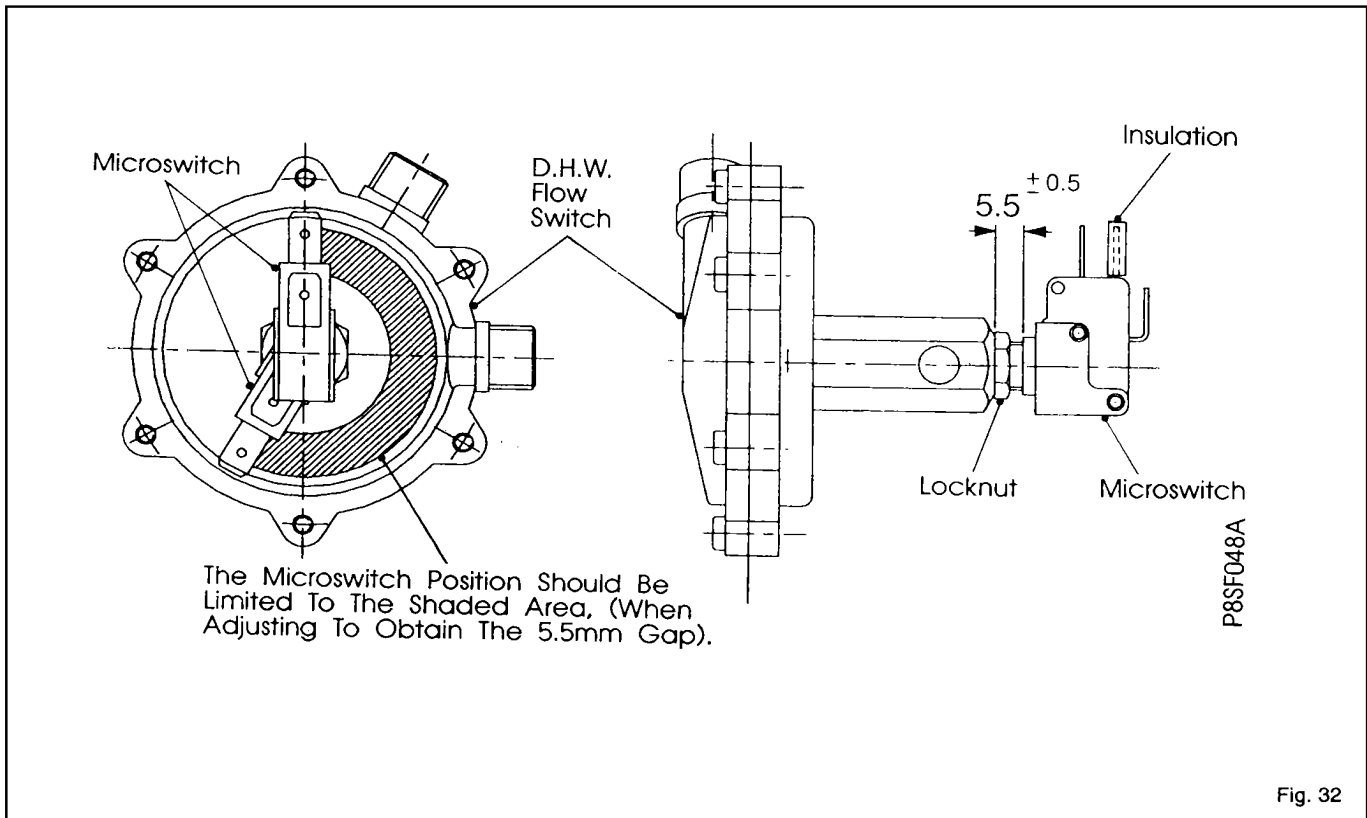

Fig. 32
- f. Transfer the micro switch assembly by loosening the locknut and unscrew the switch, refit the micro switch to the new flow switch and position the switch as dimensioned in Fig. 32.
- g. Re-assemble in reverse order. Ensure the wires are connected correctly as shown in Fig. 32.
- d. Loosen the locknut and remove the switch, fit the new micro switch (with locknut) to the flow switch and position the switch as dimensioned in Fig. 32.
- e. Re-assemble in reverse order. Ensure the wires are connected correctly as shown in Fig. 32.